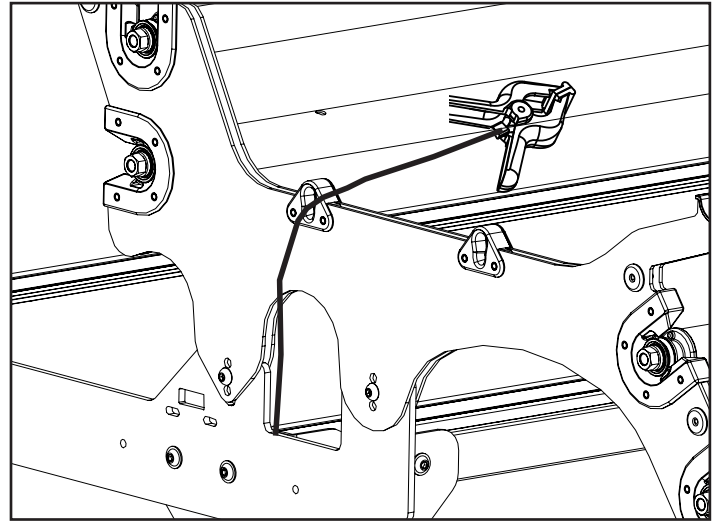

Fig. 15-1
**15-1:** Thread the bungee clamp cord from the inside of the frame through the bungee slot and then pull the cord in a downward movement to lock the bungee clamp into place. (**Fig. 15-1**)